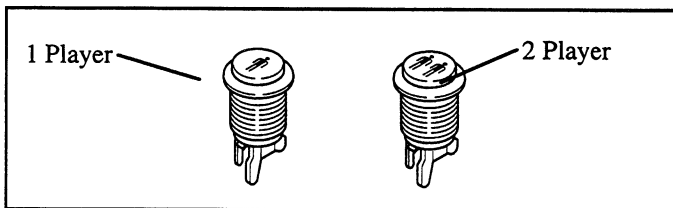

FIGURE 3
15. Notice that there are two white buttons. (See Figure 3.) Install the PLAYER ONE button on the top left-hand side of the control panel, and the PLAYER TWO button on the top right-side of the control panel. The WHITE buttons are START buttons.